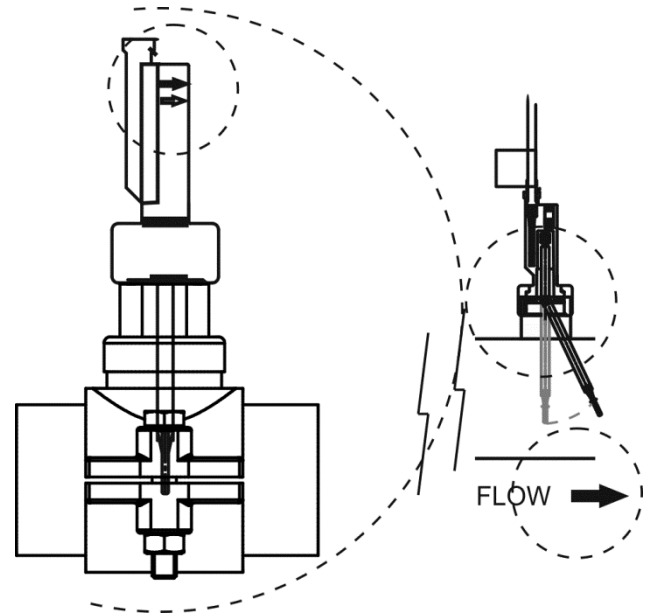

Fig. 7b
2. There is an arrow on the head of the flow detector. Make sure that this arrow is parallel to the pipe shaft and pointing in the direction that the water flows (Fig. 7b).